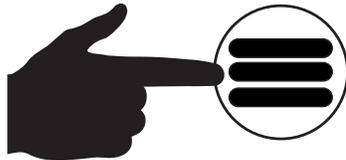

Figure 95. Main Menu Button
- Press the **Main Menu button** (Figure 95).